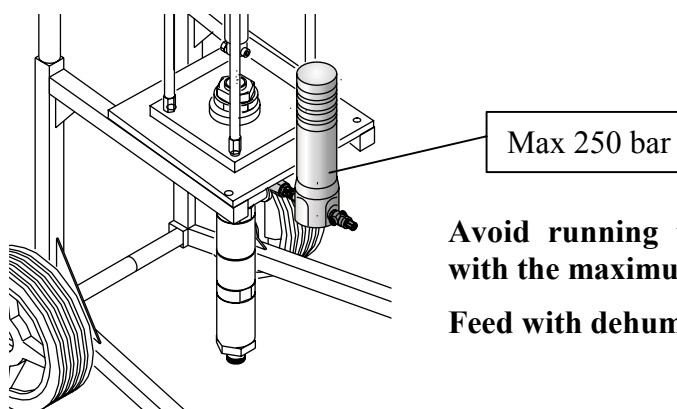

Fig.32
12) The high pressure filter installed on all of the machine has been designed to resist pressures of **up to 250 bars, higher values are not permitted and therefore are considered as dangerous**. Therefore we recommend that this parameter is always kept under control (fig.32).